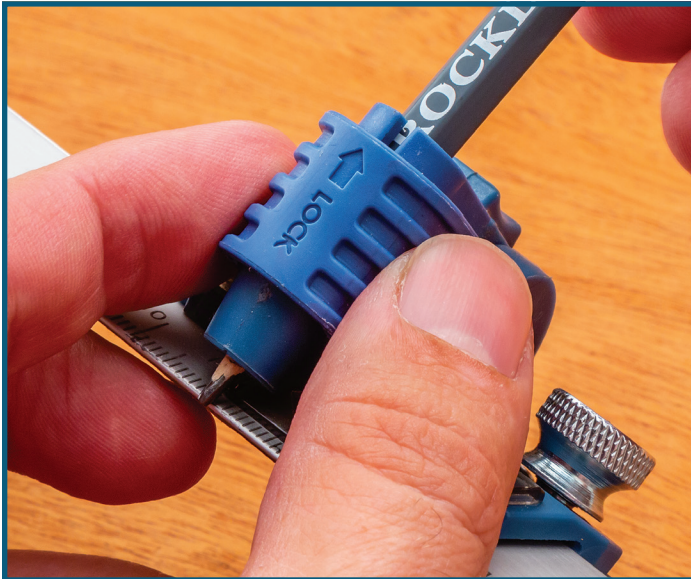

Fig. 1
3. Push the outer barrel of the pencil carriage up to lock the pencil in place. **Fig. 1.**